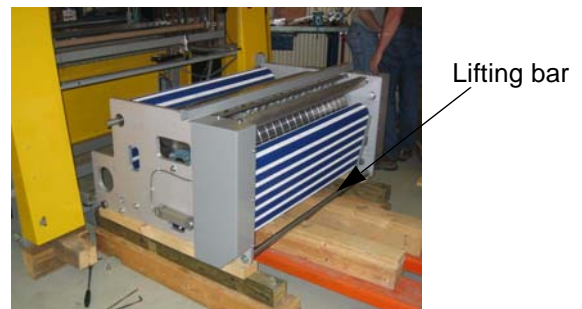

Fig. 27 Support with wooden blocks
**Note** *Make sure you support the cooling section with wooden blocks, etc. when it is fully extracted, see Fig. 27.*